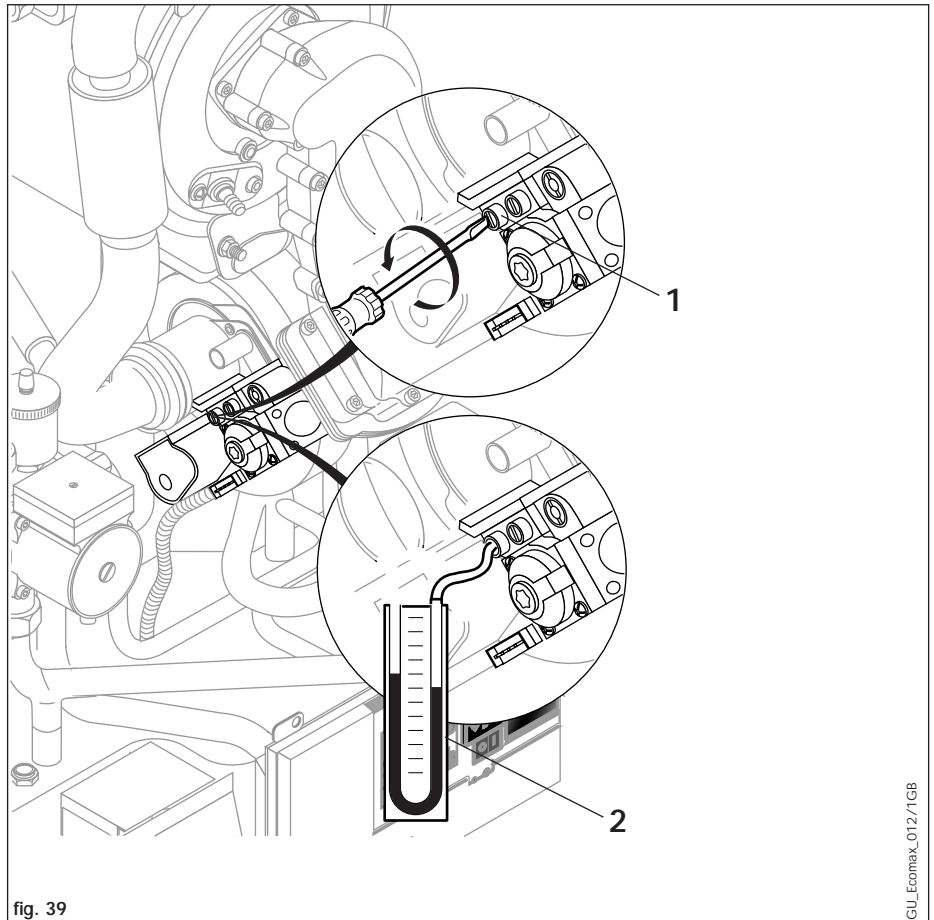

fig. 39
5.7 GAS INLET WORKING PRESSURE (FIG. 39)
- Slacken the sealing screw (1, fig. 39) and attach a U gauge (2, fig. 39) to the inlet test point on the gas valve.